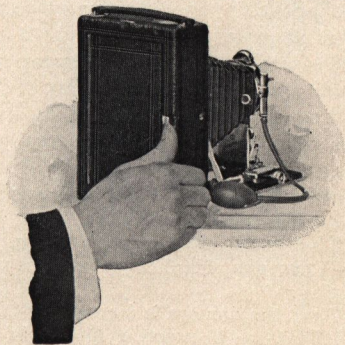

FIG. 2
9. To focus on ground glass push to right on nicked catch at side of back, which releases the ground glass panel. See Fig. 2. Then open the shutter.